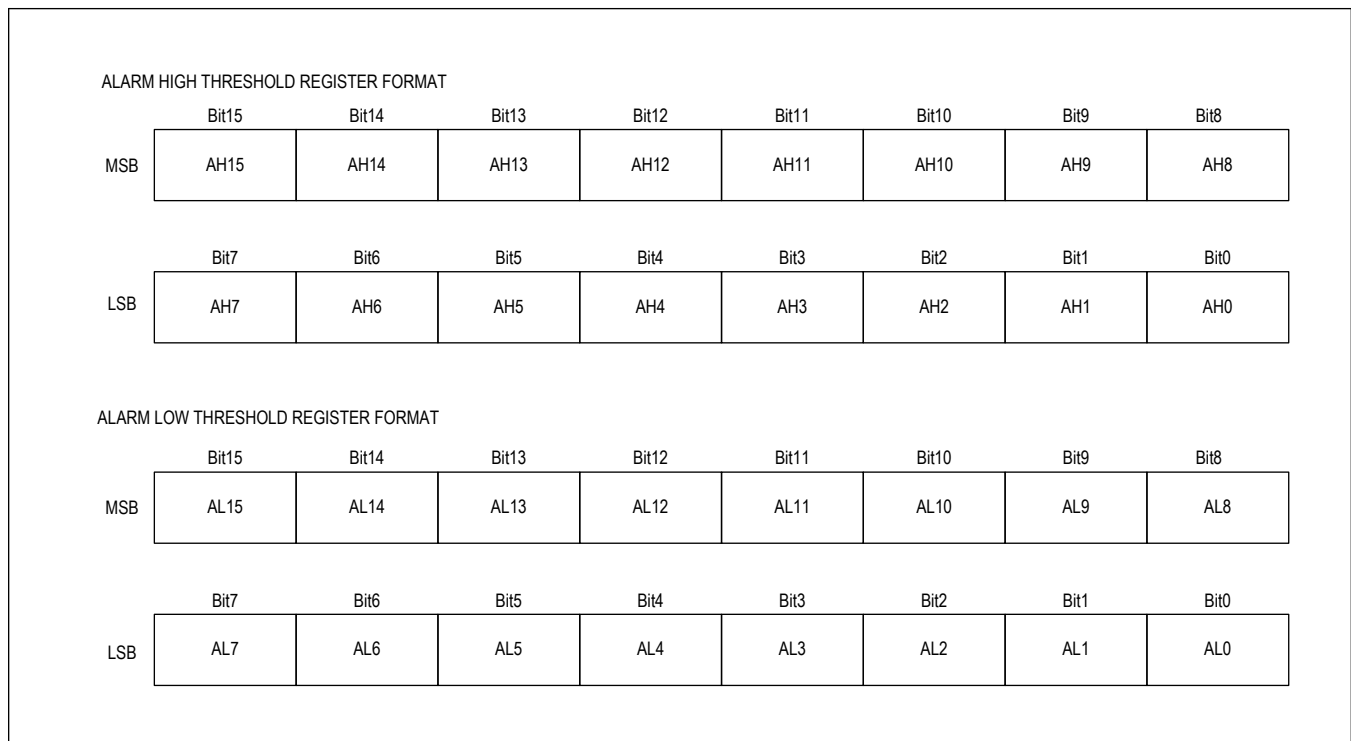

Figure 2. Alarm Threshold Register Format
After the device performs a temperature conversion, the temperature value is compared with the user-defined two's complement alarm trigger values stored in the 2-byte Alarm High and 2-byte Alarm Low registers (see Figure 2). The default value for AH is 0x7FFF (+163.835°C) and the default value for AL is 0x8000 (-163.840°C). The MSB indicates if the value is positive or negative; for positive numbers the MSB is 0 and for negative numbers the MSB is 1. The Alarm High threshold (AH) is programmed in registers ALARM\_HI\_MSB [0x10] and ALARM\_HI\_LSB [0x11]. The alarm low threshold (AL) is programmed in registers ALARM\_LO\_MSB [0x12] and ALARM\_LO\_LSB [0x13].